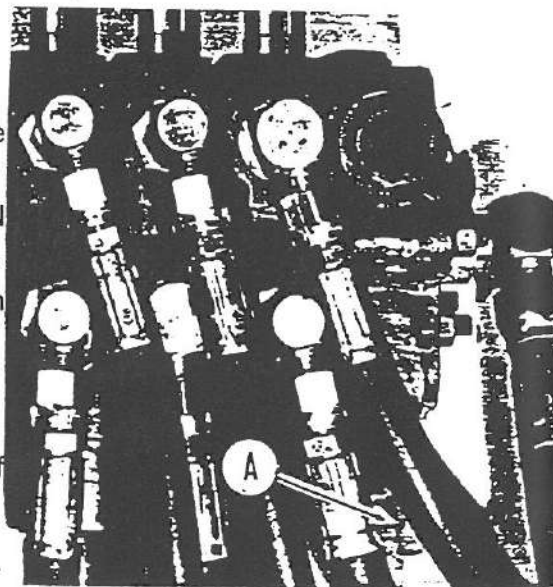

Figure 11
- B. If a closed center tractor hydraulic system is being utilized, refer to the section of this manual entitled **Closed Center Hydraulic Systems**—Figure 11.
- B. If a closed center tractor hydraulic system is being utilized, refer to the section of this manual entitled **Closed Center Hydraulic Systems—Figure 11.**
- A. Remove the cover nut, Point A of Figure 11, from the valve bypass. This exposes a socket head screw.